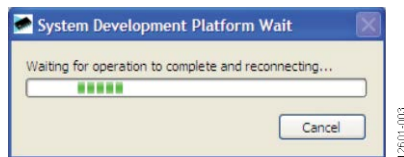

Figure 3. Connection Message
3. Click **Start > All Programs > Analog Devices > AD5592R-1 > AD5592R-1 Evaluation Software**. When the software connects to the evaluation board, the message shown in Figure 3 displays.